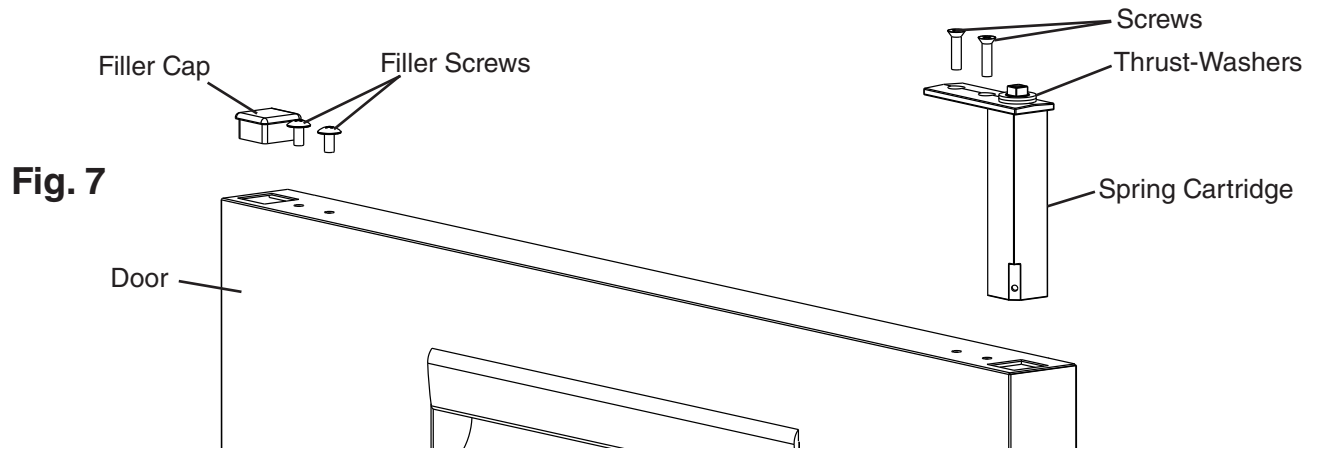

**Fig. 5**
- 4) While maintaining a hold on the door, remove the lower hinge bracket. See Fig. 5. Leave the thrust-washer in place.